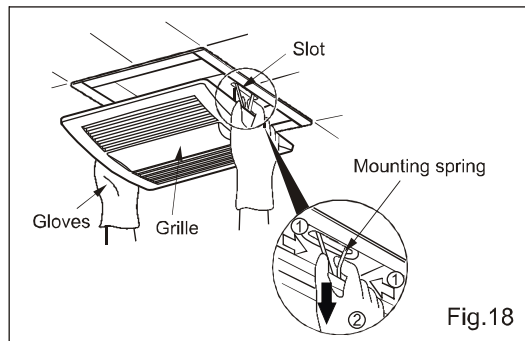

Fig.18
1. Remove grille. (Squeeze mounting spring and pull down carefully.) (Fig.18)
1. Remove grille. (Squeeze mounting spring and pull down.) (Fig.18 of page 10)